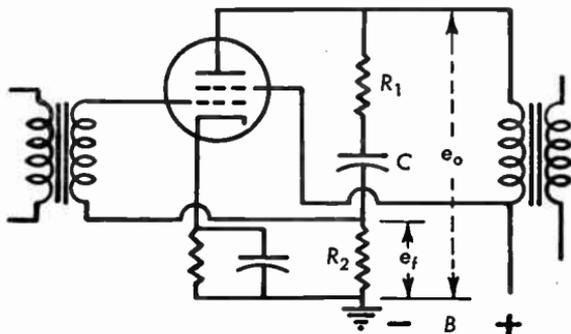

Fig. 8.21 Transformer-coupled amplifier with negative feedback.
8.21 In the circuit of Figure 8.21, $R_1 = 50,000$ ohms, $R_2 = 2500$ ohms. Calculate the feedback factor β .
8.24 In the circuit of Figure 8.21, problem 8.21, the input signal is 10 volts, the output is 100 volts. What value of R_2 will kill the signal?